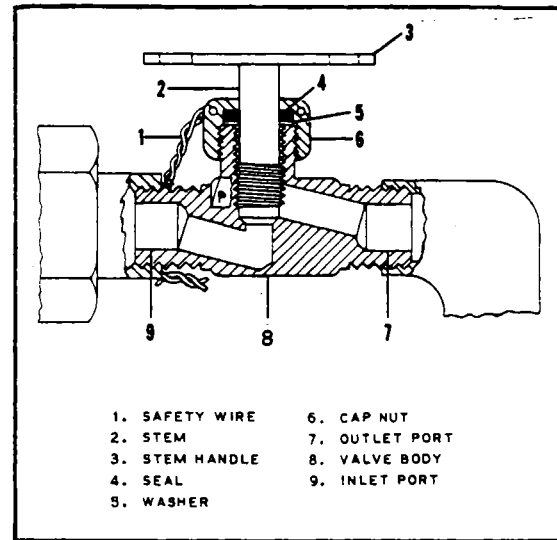

Figure 13-38. Heater Fuel Valve
13-138. INSPECTION AND REPAIR OF HEATER FUEL VALVE. (Refer to Figure 13-38.)
b. The stem assembly (2) may be removed by unscrewing the cap nut (6) with stem handle (3).
d. If any part of the stem assembly (2) is damaged or if the cap nut (6) is not drilled for safetying purposes, replace the assembly.
e. Reassemble the unit and tighten the cap nut (6) tight enough to prevent leakage but not to hamper turning the stem handle (3).
f. Safety cap nut (6) with safety wire (1) MS20995-C32. (Refer to Figure 13-38.)